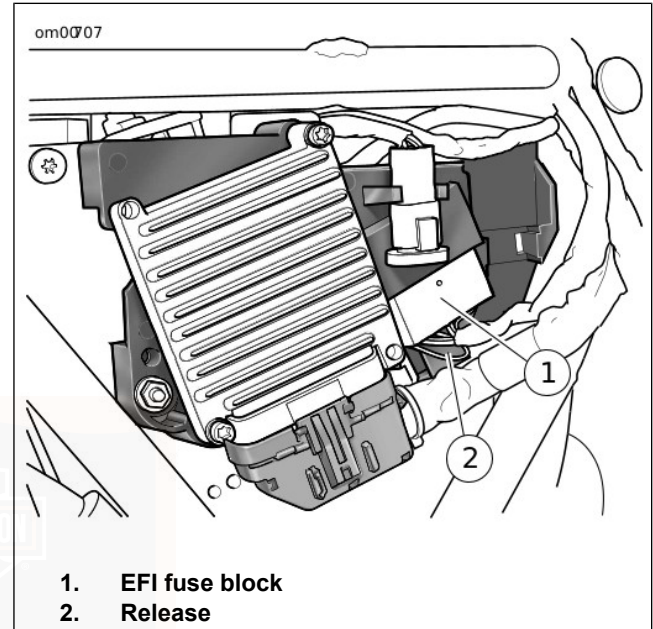

Figure 66. Electrical Bracket Assembly: Right Side Cover for EFI Models
3. See Figure 66. Locate painted white dot on inboard side of fuse block. Pressing on dot, gently tug on conduit to release tabs on fuse block from slots in bracket.